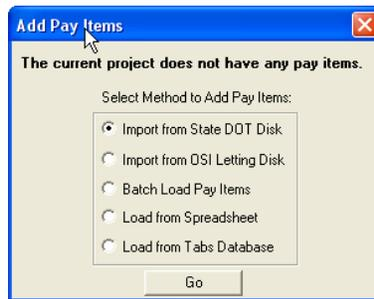
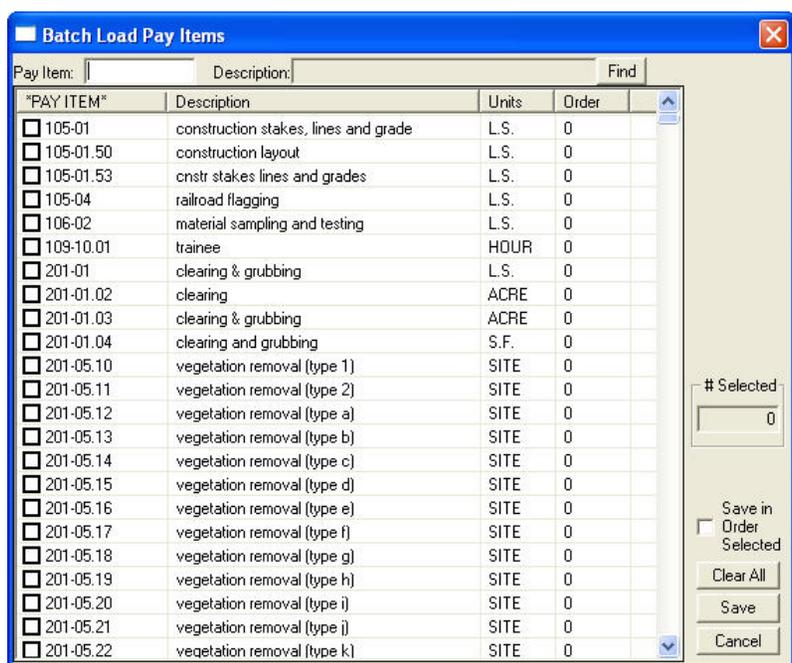
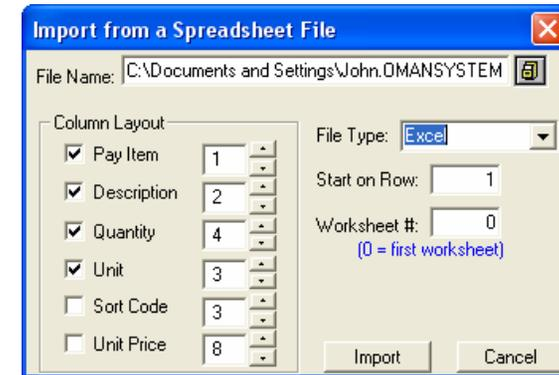

Figure 2.3
Figure 2.5a
Figure 2.6
- (A) If the DOT program requires you to export the data from their program, follow the instructions in the DOT program to create an export file. **See Chapter 3 for more information on specific DOT bid programs.**
- (B) Set up a new project (see the section titled "Setting Up a New Project" earlier in this chapter for details on creating a project). **When setting up the project, the "Pay Item Database" in the NEW PROJECT Window MUST be set to the proper state for the uploading to work properly.**
- (C) Select "Import from State DOT Disk" from the screen shown in Figure 2.3 and press GO.
- 1) **FOR A NEW PROJECT:** After you have named your new project and are at the screen shown in Figure 2.3, select the “Batch Load Pay Items” option. This will open the master pay item database showing all the standard pay items for the selected state. See Figure 2.5a.
- 2) **FOR AN EXISTING PROJECT:** If you want to add several more pay items all at once rather than one at a time in an existing job, open that job from the Project List window. Select Import/Export, and then select batch load pay items. The screen as shown in Figure 2.5a will be displayed. Follow the procedure outlined below to add pay items.
When the window shown in Figure 2.5a is first opened, the list is sorted by Pay Item. You can change the sort by clicking the column heading. You can sort the list by Pay Item, by Description or by Unit of Measure. You can also search the list for all or part of a pay item or pay item description. NOTE: In order to search by Pay Item or Description, you must first sort the list by that column. For example, to search by description, the list must be sorted by description.
After selecting “Load from Spreadsheet” from the “Add Pay Items” window (shown in Figure 2.3), the following screen (Figure 2.6) is displayed:
These fields allow you to select the items to import and the column number (in the spreadsheet file) that contains the data. If an item is **NOT CHECKED**, that item will **NOT** be loaded into PLUS. For example, if the pay item numbers were in column three of an Excel spreadsheet, you would select 3 next to pay item in the window in Figure 2.6. Do the same for all columns you want to import.